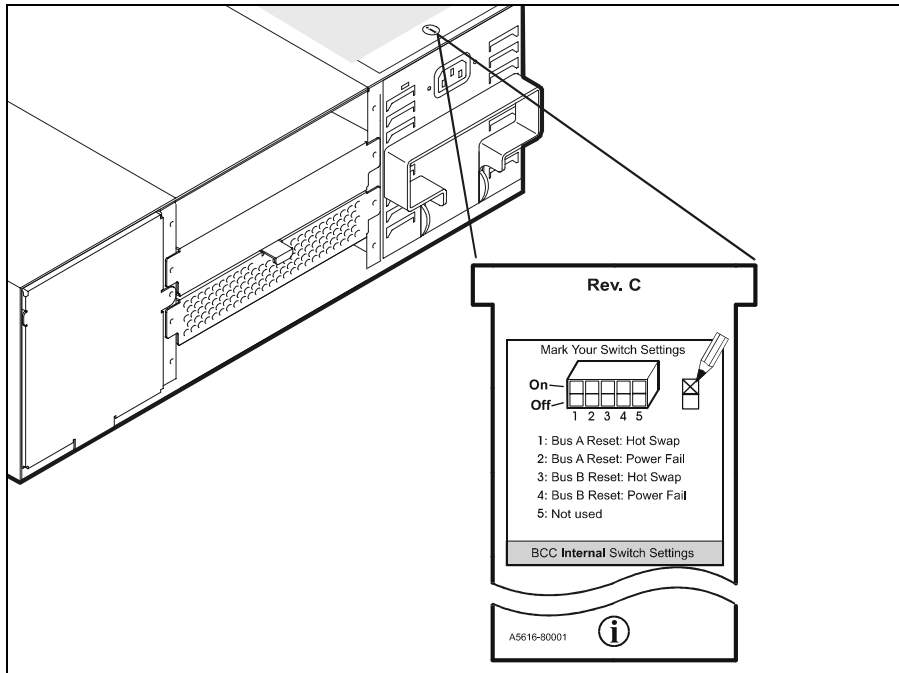

Figure 31 Switch Information
5. Use a pencil to mark the internal switch settings on the information card (Figure 31). This can avoid the need to remove the BCC later to verify switch settings.